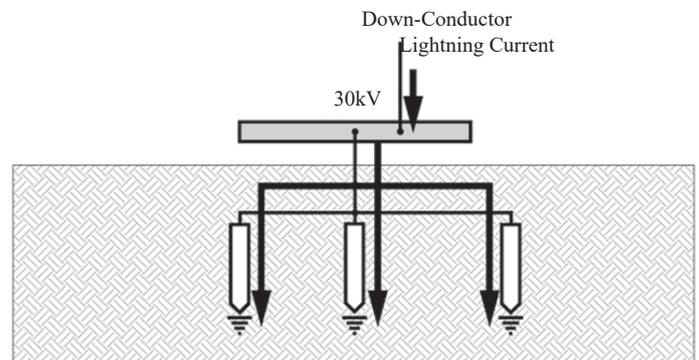

Figure 3.1: Best Practice
- 3.1 **Best practice:** In Figure 3.1 there is one earthing system with all equipment referenced to a single point (the equipment earth bar shown). During a typical lightning strike the potential of this reference point reaches 30kV, however everything is raised to this potential and so the equipment experiences no potential difference. No earth clamps are required.